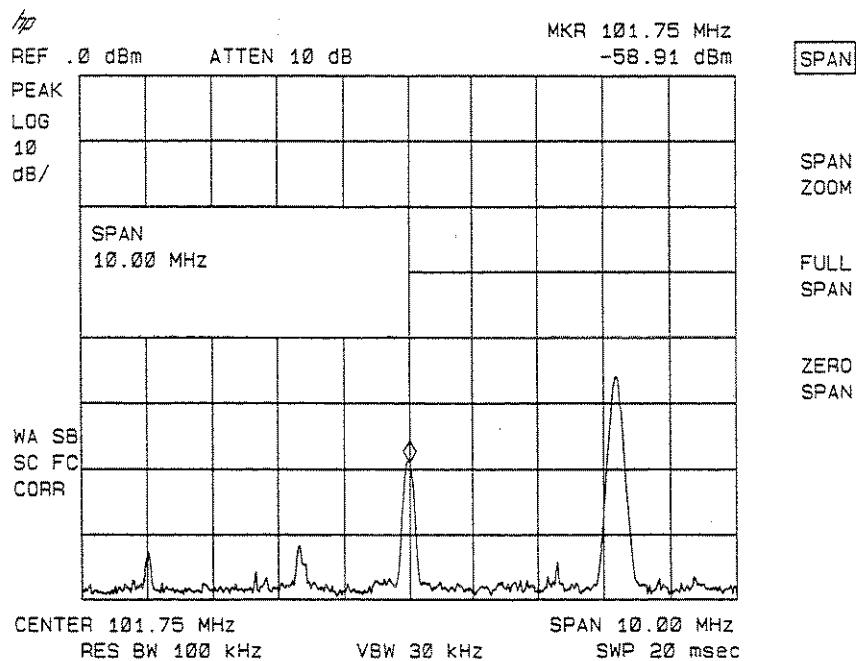

Figure 2-16. Low-Level Signal
5. Reduce the span to 10 MHz. Press [SPAN], and then use the step-down key (▼). See Figure 2-16.